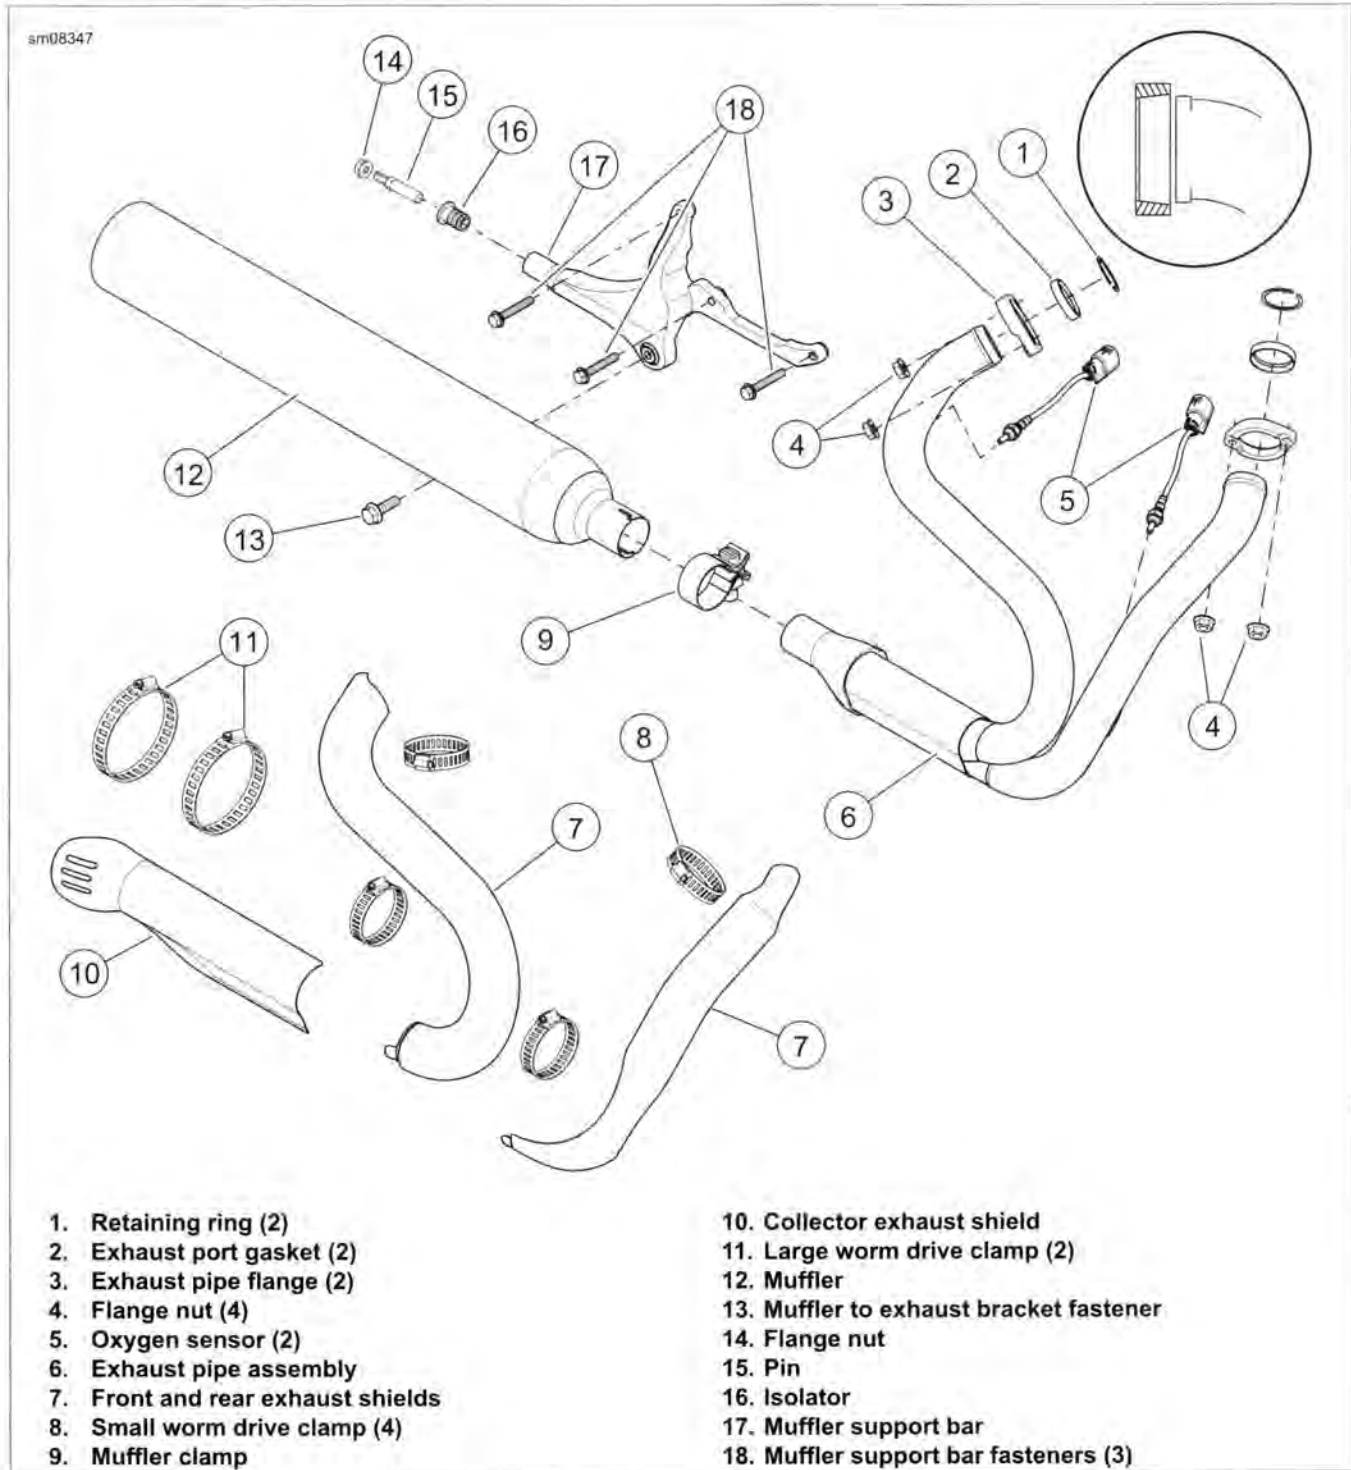

Figure 4-67. Exhaust System: FXDL
2. Disconnect front and rear O2 sensor connectors (5).
3. See Figure 4-67. Remove front, rear and collector exhaust shields (7, 10) from exhaust.
4. Loosen muffler clamp (9).
5. Remove muffler to exhaust bracket fastener (13) and muffler (12).
8. Remove four flange nuts (4) to release exhaust pipe assembly (6) from studs of front and rear cylinder heads.
See Figure 4-67. Replacement exhaust port gaskets (2) are tapered internally. Make sure that the thin end goes over the exhaust pipe. Also check condition of retaining ring (1) before installation.
1. Install **new** exhaust port gaskets (2).
2. Inspect retaining rings (1) and exhaust pipe flanges (3). Replace if necessary.
3. Position ends of exhaust pipes into front and rear cylinder head exhaust ports. Install exhaust manifold flanges over cylinder head exhaust studs. Install flange nuts (4). Leave fasteners loose.
13. See Figure 4-67. Open the small and large worm drive clamps (8, 11) and install front, rear and collector exhaust shields (7, 10). Tighten small and large worm drive clamps to 20-40 **in-lbs** (2.3-4.5 Nm).